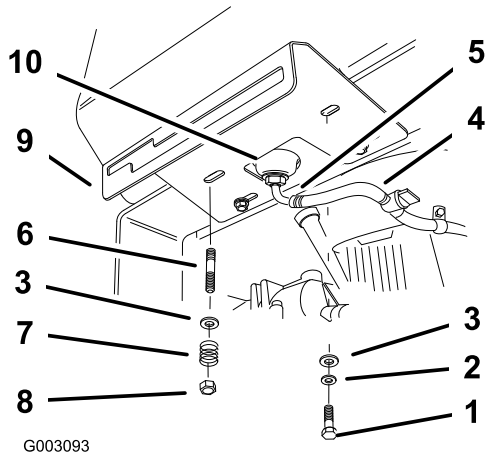

Figure 6
6. Secure the right side of shift lever plate and fuel tank to the rear frame with 2 bolts (5/16 x 7/8), lock washers (5/16 inch) and washers (5/16 inch) (Figure 6).
7. Secure the left side shift lever plate and fuel tank to the rear frame with washers (5/16 inch), springs and locknuts (5/16 inch) (Figure 6).